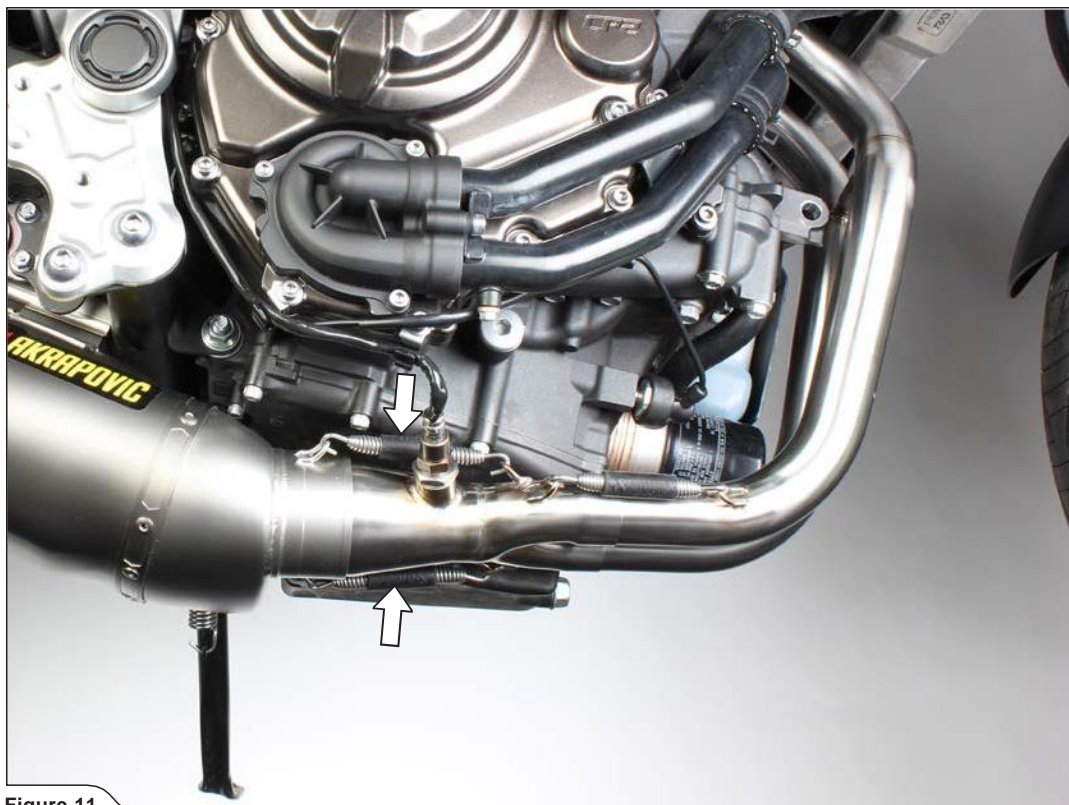

Figure 11
4. Position the muffler correctly and slide it onto the outlet side of the collector. Attach the springs (Figure 11).